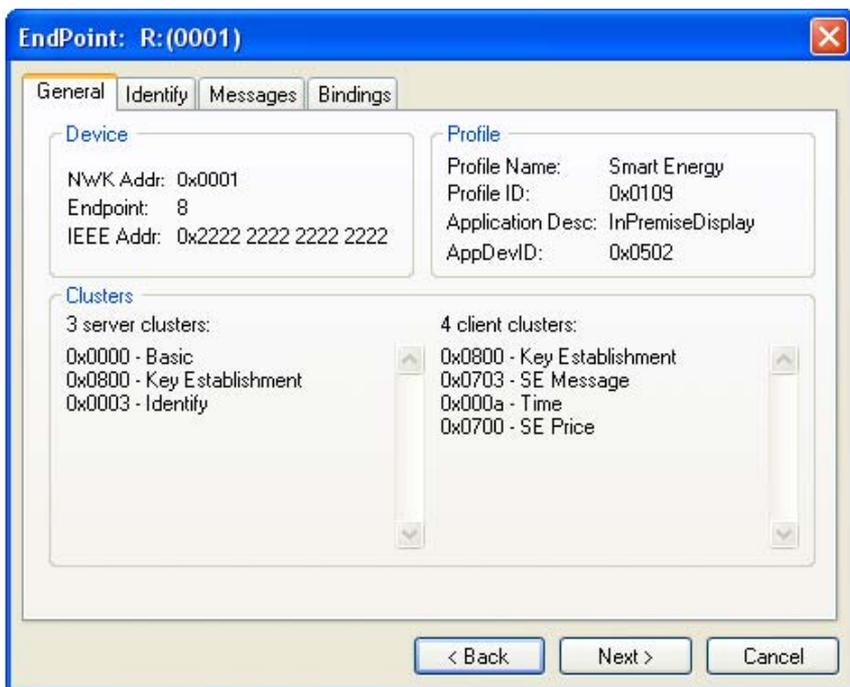

Figure 13. InPremiseDisplay Endpoint Properties Tab
2. Double-click the InPremiseDisplay icon on the ZeD GUI. The Endpoint Properties window appears as shown in Figure 13.